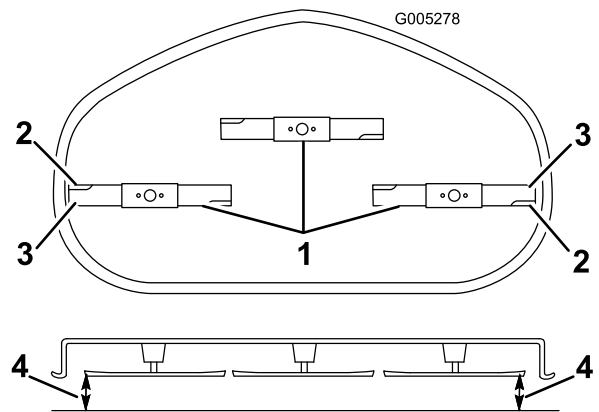

Figure 51
- Carefully rotate the blades so that they are all side to side (Figure 51).
- Measure between the outside cutting edges and the flat surface (Figure 51). If both measurements are not within 3/16 inch (5 mm), an adjustment is required; continue with this procedure.